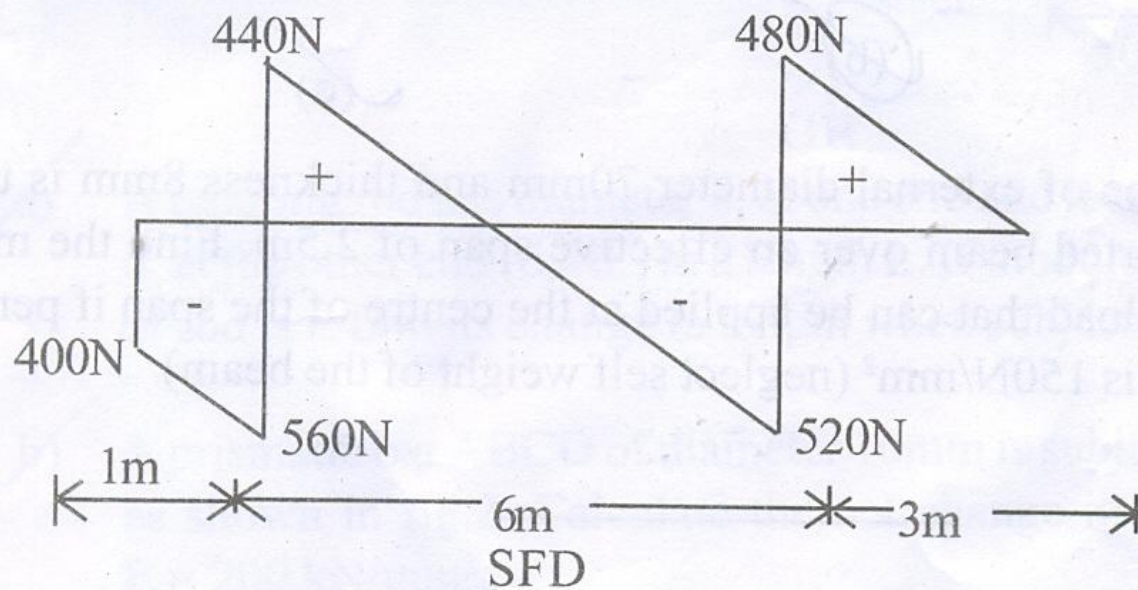

Fig.6
4. The shear force diagram for a overhanging beam is shown in Fig.6. Draw the loading diagram and bending moment diagram. Find the magnitude of maximum bending moment and locate the point of contraflexure. (16)